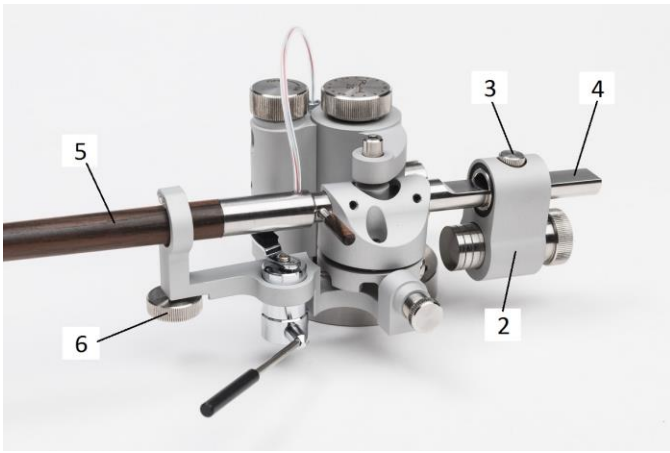

Figure 7
- b) Put counterweight frame [2] onto the holder [4] and fasten it with the screw [3], as shown in Figure 7.
c) Fasten armtube [5] using fastening screw [6] (Figure 7).